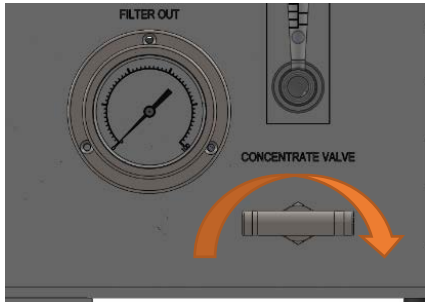

Figure 4
6. Pressurize the system to the rated flow turning the concentrate valve clockwise or 850 psi, whichever comes first. (Figure 4).